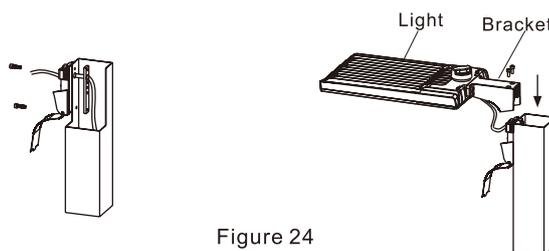

Figure 24
Step 1: The base has hole patterns that are compatible with most existing pole drill holes. If necessary, drill new holes in pole. Feed supply wires from inside the pole through the mounting bracket base. (Figure 24)